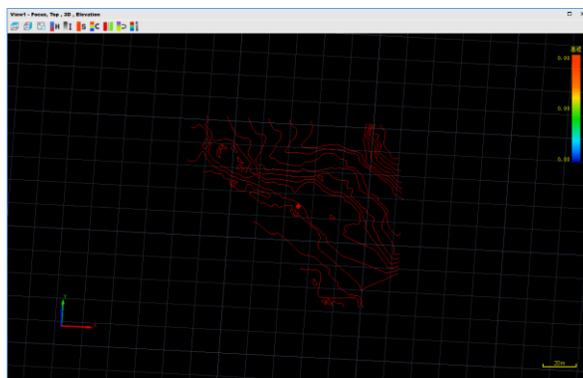

Figure 3-141 Generated contour model file
- Next, you need to set the format of the export file, which is mainly shp file. Since this function can generate contour model files for multiple point clouds in batch, you need to select the folder to save the batch files and click <OK> to start generating. After the generation of files need to be manually loaded in the software (Figure 3-141).